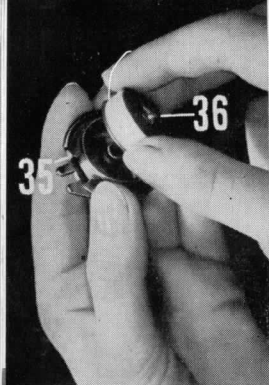

fig. 13
Insert the fully-wound bobbin (36 in Fig. 13) into the bobbin case (35) making sure that the thread winds off the bobbin as shown in Fig. 13.